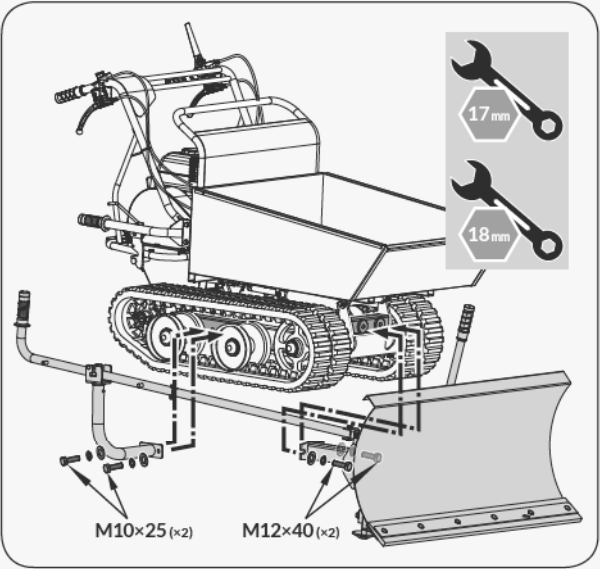

Figure 3e
7. Install the already assembled plow blade to the trackbarrow as shown. (See **Figure 3e**)